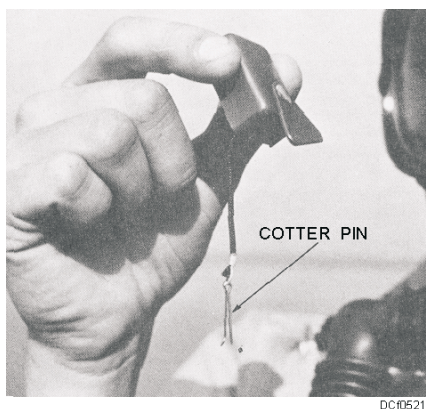

Figure 5-21. Checking for the cotter pin.
Step 3. Pull the lanyard on the canister straight out and away from your body. This removes the cotter pin (fig. 5-21), fires the candle, and inflates the breathing bag with oxygen. After you pull the lanyard, always check to ensure that the cotter pin is still attached to the lanyard. A slight amount of harmless smoke may be present in the facepiece while the candle is burning.